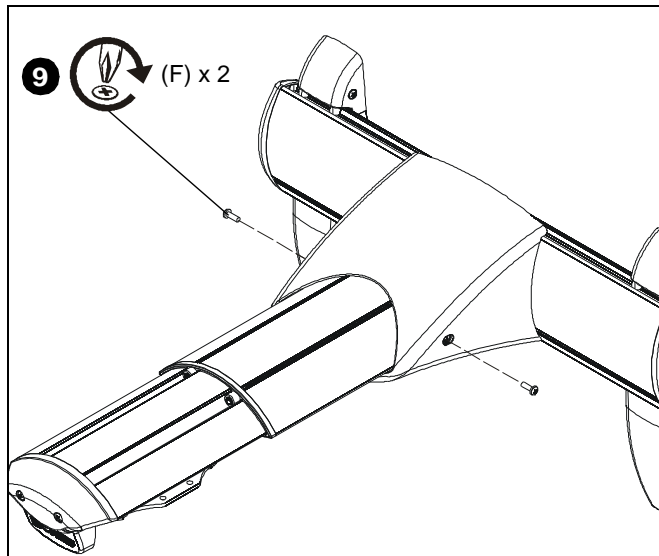

Figure 36
9. Reinstall two #8-32 x 1/2" Phillips pan machine screws (F) through holes on sides of outer cover. (See Figure 36)